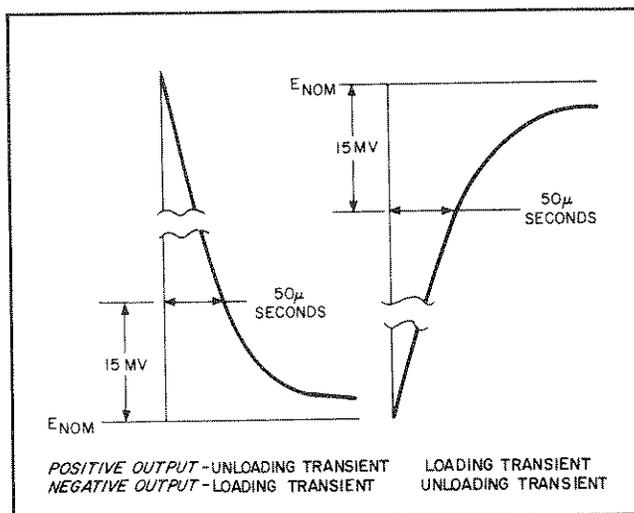

Figure 5-6. Load Transient Recovery Time Waveforms
- i. Starting from the major graticule division representing time zero, count to the right $50\mu\text{sec}$ and vertically 15mV . Recovery should be within these tolerances, as illustrated in Figure 5-6.